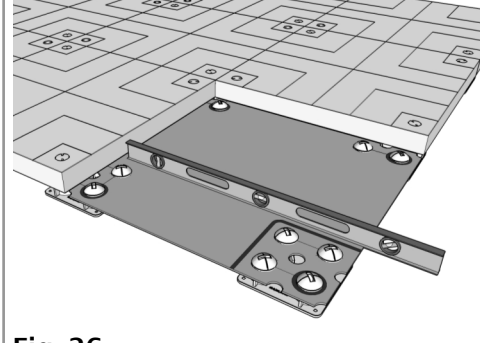

Fig. 26
(NOTE: be sure to level each Pier (A) and secure with Anchor Spikes (D). (Fig. 26)